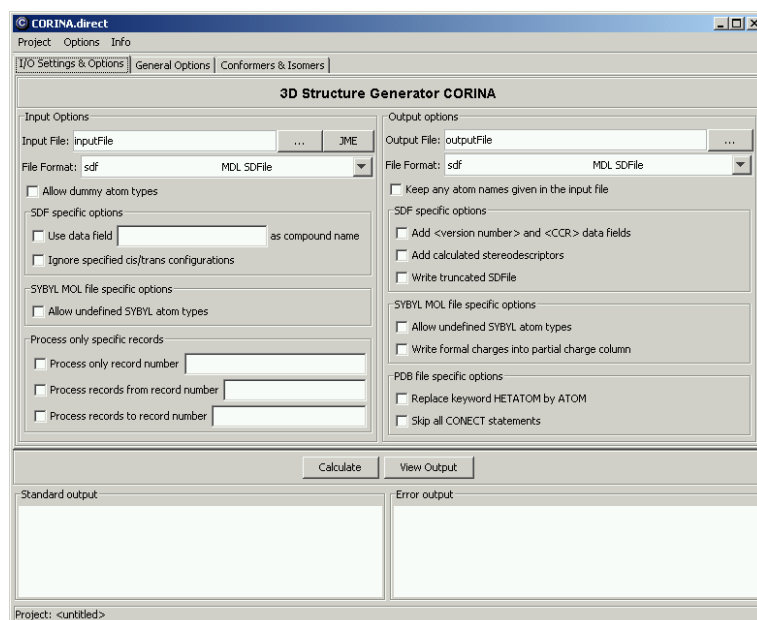

Figure 6 Starting **CORINA.direct**.
In the main menu of **CORINA.direct** three different menus are available, i.e., **Project**, **Options** and **Info** (see Figure 6).
6.1.2 Button Bar (see Figure 6)
The **I/O Settings & Option** tab is the first tab of **CORINA.direct** (see Figure 6).
Input file options (middle right, see Figure 6)
Record number (lower right, see Figure 6)
Output file (middle right, see Figure 6)